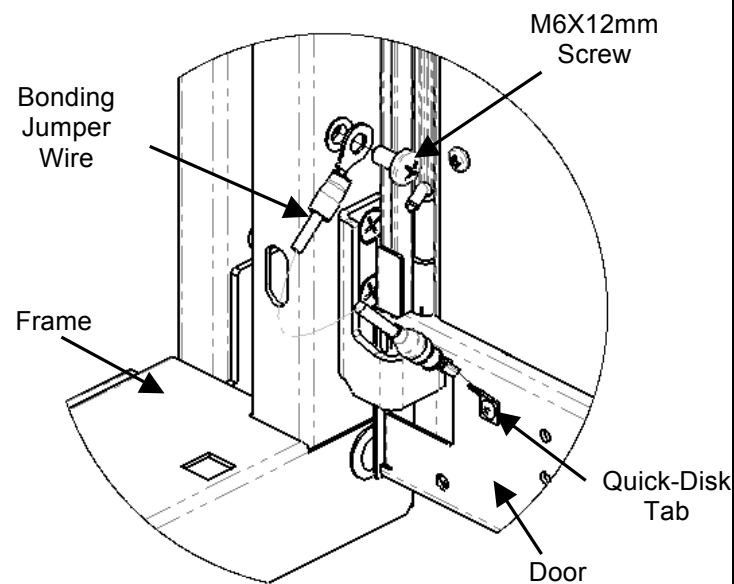

Fig. 5
7. Using an M6X12mm screw, attach the end of the bonding jumper wire with the ring terminal to the frame threaded nut nearest to the bottom door hinge. Orient ring terminal as shown when tightening screw (Fig. 5).
8. Electrically bond the door to the cabinet frame by plugging the quick-connect end of the bonding jumper wire onto the quick-disconnect tab nearest the lower door hinge (Fig. 5).